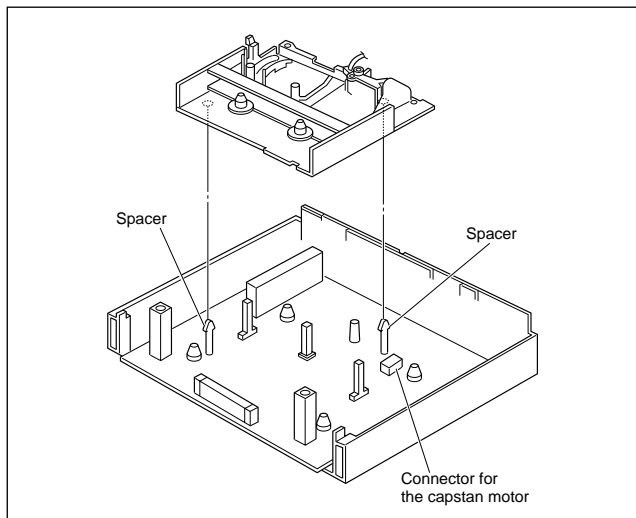

Fig. 2-2-8b
- (1) Provisionally tighten the three screws (A) securing the capstan motor.
- (2) Install the mechanism assembly to which the capstan motor is provisionally fastened on the bottom chassis which incorporates the Main board assembly. (No need to tighten the screws for mounting the mechanism.) Make sure that all the connectors for the mechanism assembly and the Main board assembly are correctly installed as indicated in Fig. 2-2-8b.
- (3) Making sure that the connector for the capstan motor is correctly mounted, and securely tighten the three screws (A).